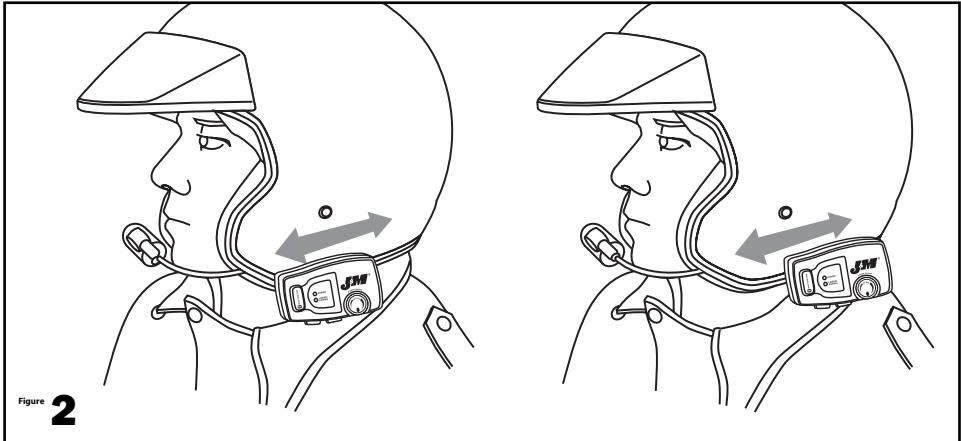

Figure 2
3. Position the boom microphone/amp clamp assembly on the left side of the helmet so that the microphone lines up with the wearer's mouth. Mark this position. **See Figure 2.**